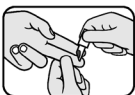

Fig. 2
- b) Take the microcuvette out of the package. Hold the microcuvette opposite the filling end and bring into contact with the capillary specimen, see figure 2. When test tubes or syringes are used, the blood should be well mixed prior to the measurement. Place a drop of blood onto a hydrophobic surface with a transfer device, see figure 3. Always avoid contamination of the optical eye.